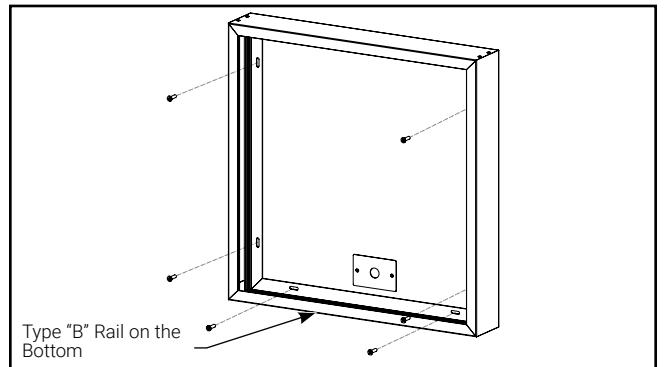

Figure 11.
**Note:** It is recommended to mount the box such that the supply conductor junction box is located at one end of the box. This will ensure there is enough free space inside the box for excess flexible metal conduit. (Figure 11.)
B3. Attach box to wall using appropriate hardware (not included) to secure both type "A" rails and the bottom type "B" rail to the surface. Ensure the box remains square when mounting. The spacing of the mounting slots is 16 inches center-to-center. (Figure 11.)